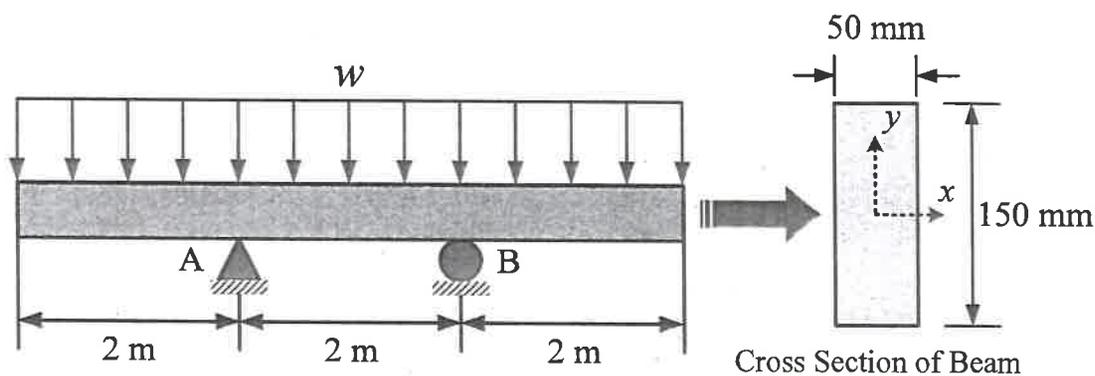

Fig. 3
3. (20%) The beam has the rectangular cross section shown in Fig. 3. If the linear distributed load $w = 1 \text{ kN/m}$, determine